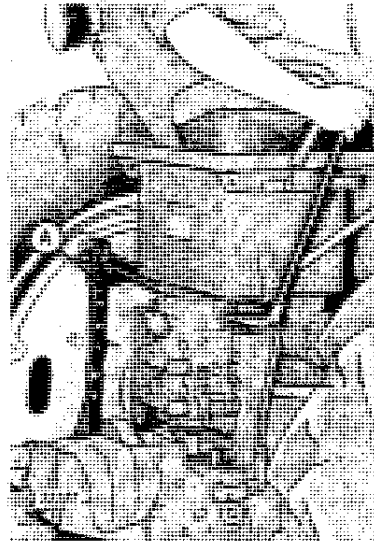

Figure 2
The range of tilt is regulated by the hydraulic control lever on the tractor and the series of holes "A," Figure 2, in the lift linkage.
2. (Figure 2) Using hydraulic control lever, raise gatherer points so that gatherer hinge point (long bolt which secures gatherer point hinge to hinge bracket) is 13 to 14 inches above ground. Be careful not to raise gatherer points higher than 13 to 14 inches, as damage may occur to rear of picker. If hydraulic control lever was not fully engaged to raise gatherer points to 13 or 14 inches or the desired height was not obtained, move the lift linkage on the lift arm to a different hole "A," Figure 2.